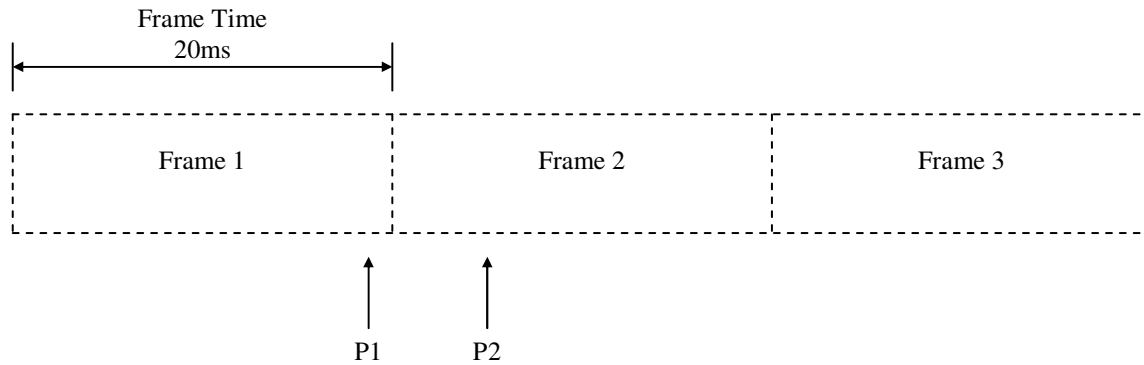

Figure 5: Data arriving at different times relative to the start of frame
- **Framing delays.** Framing delays will occur depending on where data arrives relative to the start of a frame. Consider the situation in Figure 5.